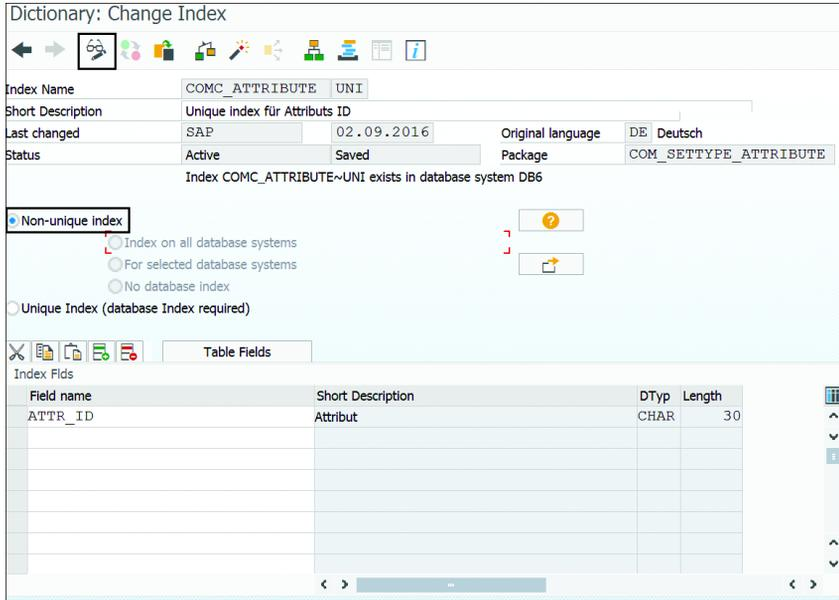

Figure 71 Change Index To Non-Unique
7. On the DICTIONARY: CHANGE INDEX screen, select CHANGE mode and select NON-UNIQUE INDEX (see Figure 71).